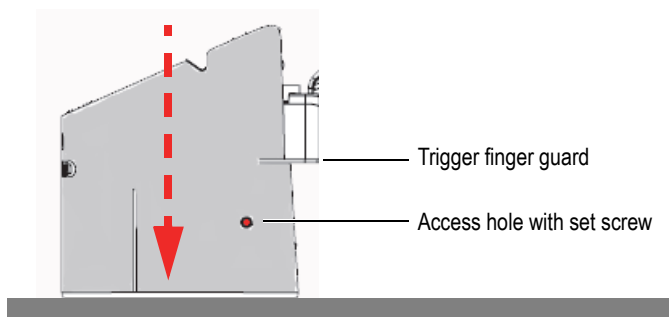

Figure E-3 Probe shield facing down
3. Place the probe shield on a flat surface (desk or bench) with the nose facing downward (see Figure E-3 on page 154).